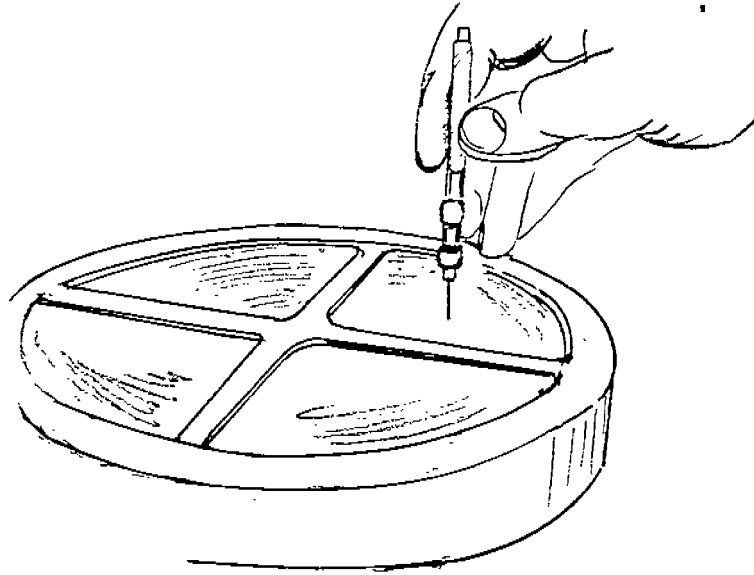

Figure 4.
7. ( ) A 0.018 inch wire gauge cannot pass through the openings of the flame arrester-core. The procedure for making this inspection (dated August 5, 1985) is attached. Also see figure 4.